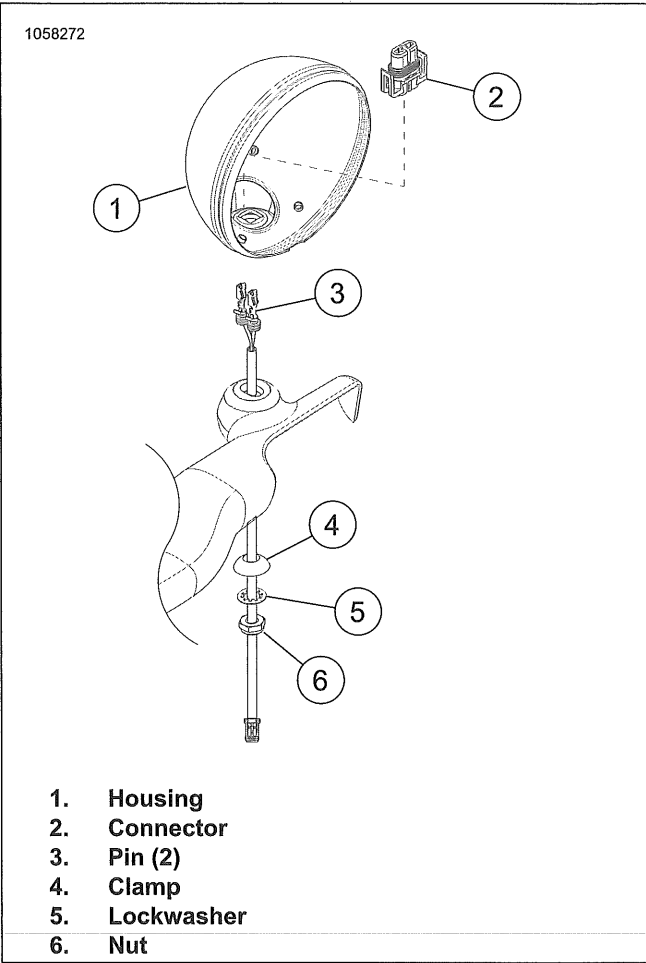

Figure 7-63. Auxiliary Lamp Housing with LED Signal
- See Figure 7-63. Disconnect pins (3) from connector (2).
- Remove nut (6), lockwasher (5), and swivel clamp (4).
- Remove housing (1).
- See Figure 7-63. Install housing (1).
- Position housing. Install swivel clamp (4), lockwasher (5), and nut (3). Tighten.